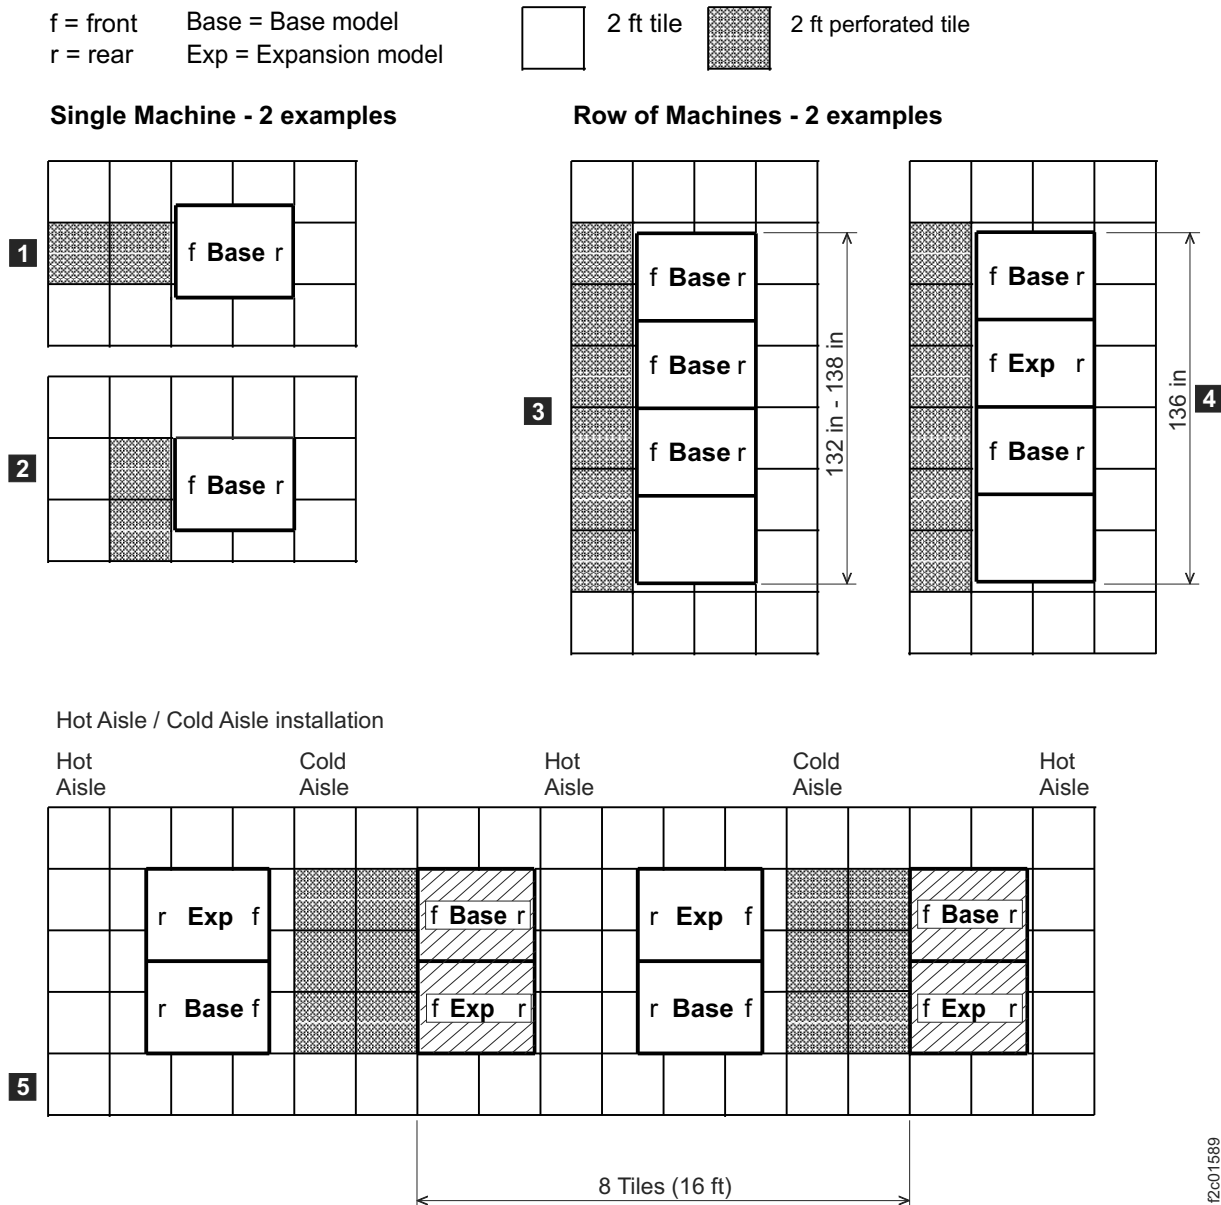

Figure 25. DS8870 layouts and tile setup for cooling
- For a stand-alone base model, install two fully perforated tiles in front of each base model, as shown in Figure 25 in the single-machine examples (1 and 2 in the figure).
- For a row of machines, install a row of perforated tiles in front of the machines as shown in Figure 25 (3 and 4 in the figure).
- For groupings of machines, where a hot aisle/cold aisle layout is used, use a cold aisle row of perforated tiles in front of all machines. A possible minimal configuration is shown in Figure 25 (5 in the figure).
Note: Keep in mind that the dimensions represented in Figure 25 might not be adequate for floor-load requirements.